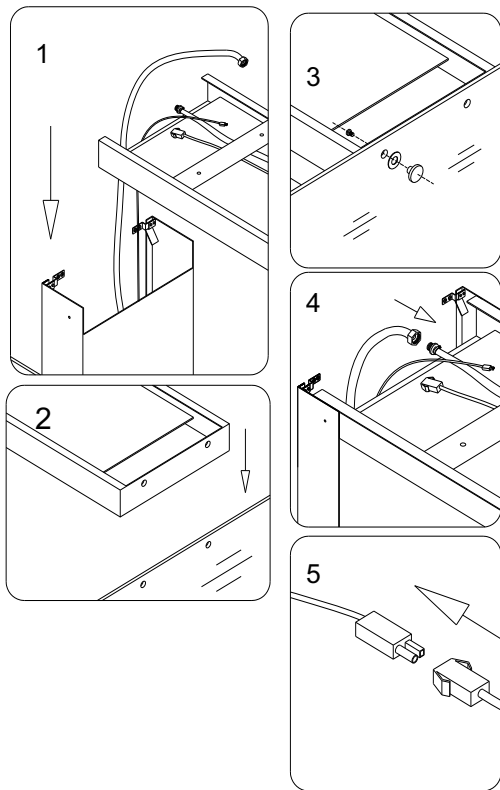

Fig. 15
9. Place the **Horizontal shower column (06)** on the top of the **Shower column**. Do not forget to pull out the head shower tubing and wire. Attach the other end of the **Horizontal shower column** to the wide stationary glass with the provided **Bolts (17)** and then connect wires for the light, the speaker and the fan and the head shower supply line. See fig. 15 for details.